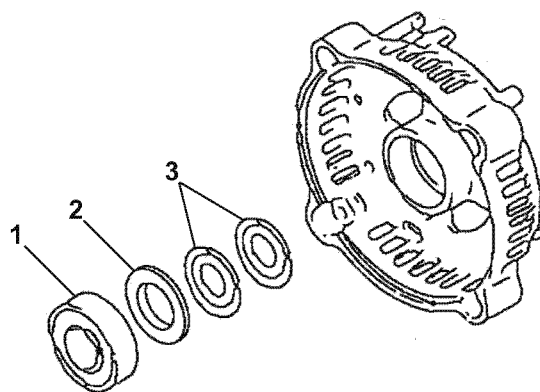

Figure 12-11
11. If it is necessary to replace the bearing (1, **Figure 12-11**) in the rear frame housing, use a puller to remove. Discard the bearing. Remove the bearing cover (2, **Figure 12-11**) and two thrust washers (3, **Figure 12-11**).